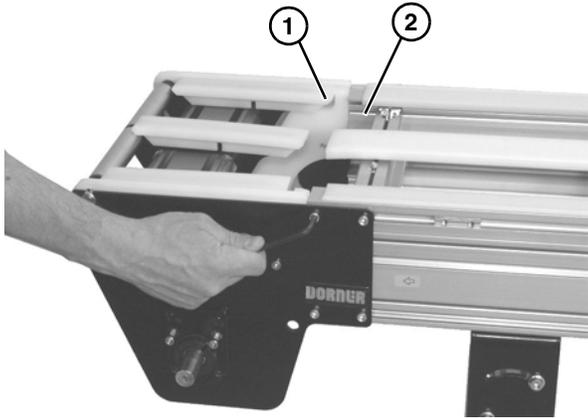

Figure 33
When reinstalling the drive spindle tail assembly, the terminal assembly (Figure 33, item 1) should be flush with the conveyor frame (Figure 33, item 2).